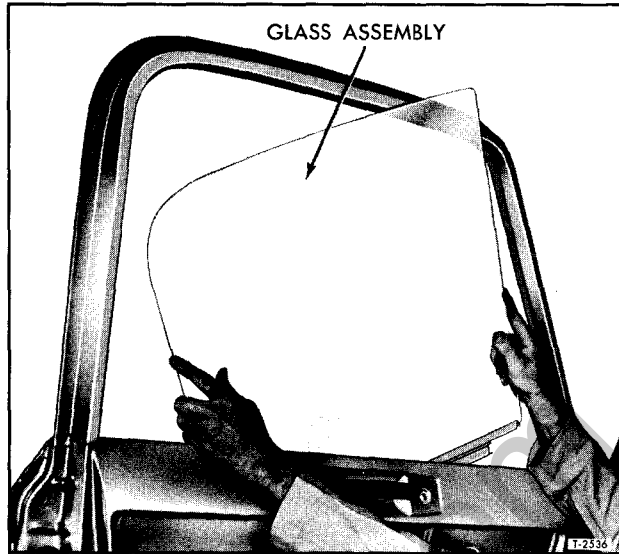

Figure 25—Replacing Door Window Glass Assembly
3. Disengage the glass from the regulator guide by positioning the roller at the guide openings and then lifting out the window (fig. 25).
3. Lower the door window assembly into door (fig. 25).